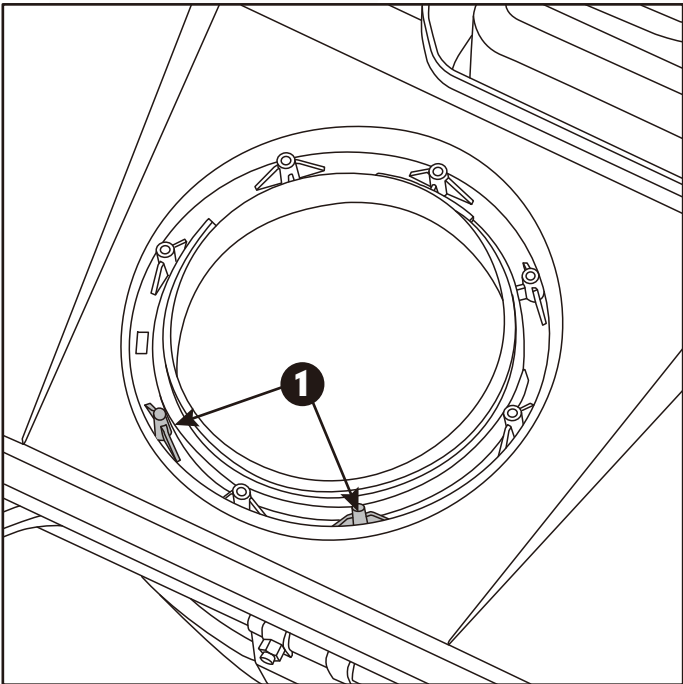

Fig.3A
- 1. Locate and align the two positioning tabs on the snow blower body with the discharge chute. (Fig.3A)